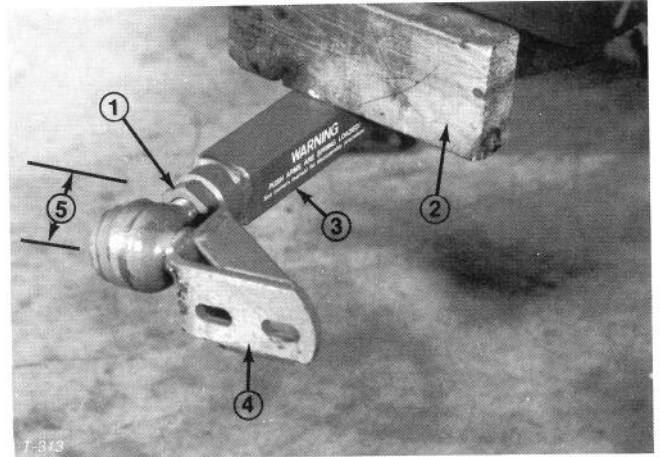

Figure 16
4. Have a helper push down on the left push arm; then insert a 2 x 4 in. (51 x 102 mm) block of wood between the frame and top of the push arm (Fig. 16). Screw ball joint into left hand push arm until center of ball joint is 2-3/8 inches (60 mm) away from front of push arm (Fig. 16). Do not tighten jam nut.